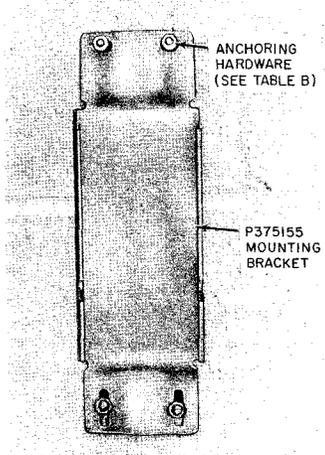

Fig. 20—P-375155 Mounting Bracket Secured to Wall
3.05 Attach the mounting bracket to the pole as indicated in Fig. 12. Figure 20 shows the mounting bracket attached to a wall using the anchoring hardware listed in Table B.